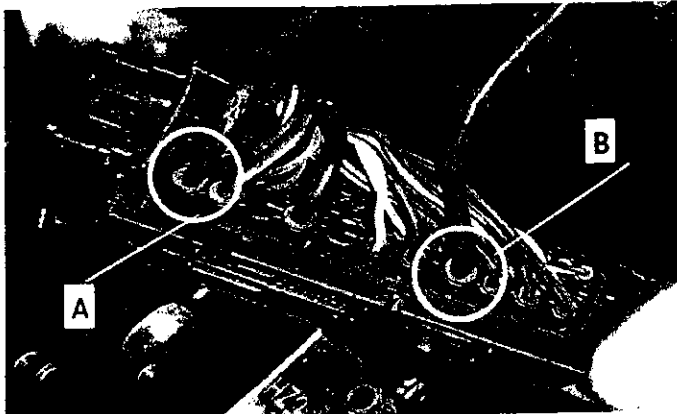

Figure 8: A = pin 37, B = pin 44
10. Remove pin 37 and pin 44 (Figure 8) from the SBC connector housing using cable release tool (W 000 589 13 99 30 and W 220 589 01 99 50).